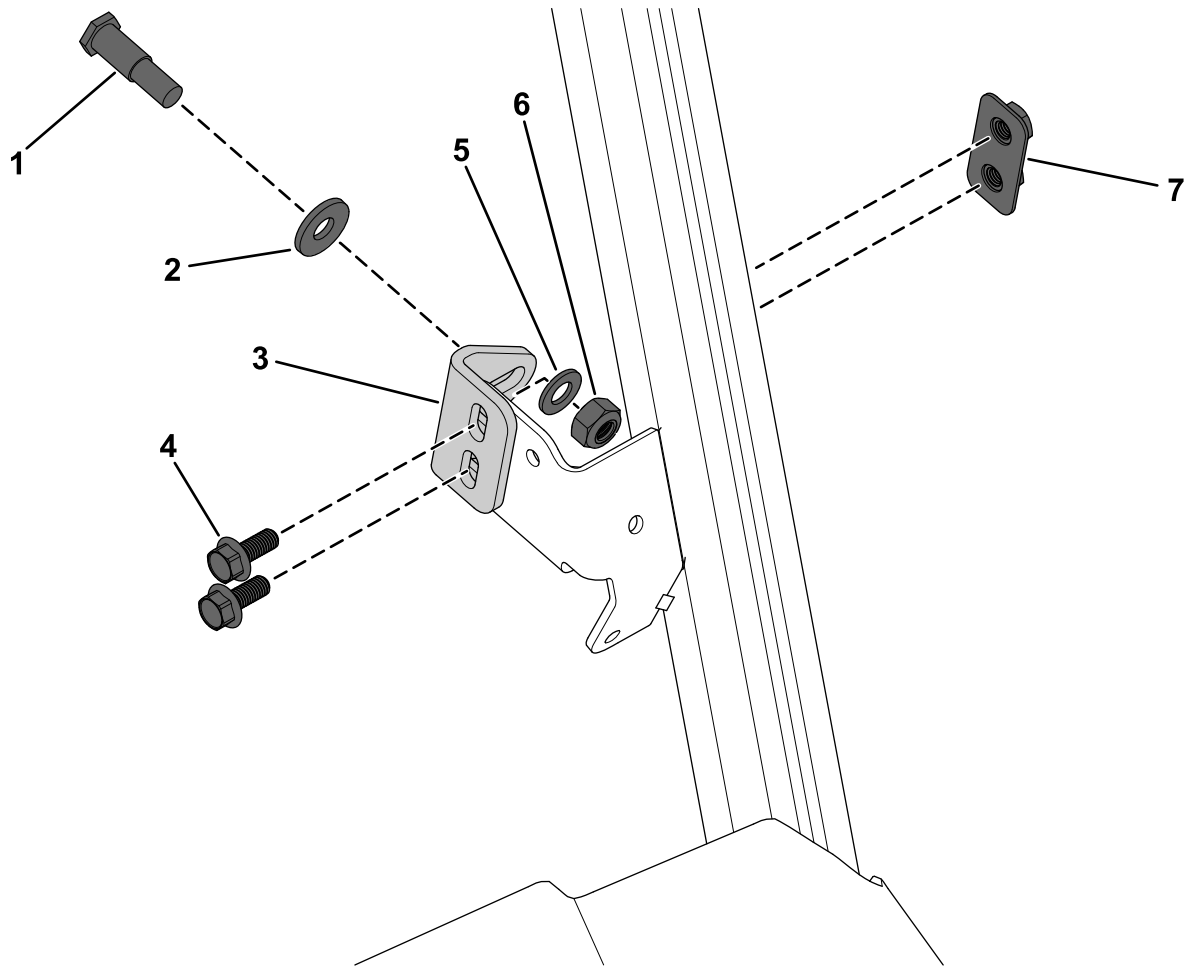

Figure 9
10. Loosely secure a latch bracket to the left door-latch bracket using 1 nut plate, 2 flange-head bolts (M8 x 20 mm), 1 Belleville washer, 1 flat washer, 1 striker pin, and 1 hex nut as shown in Figure 9.